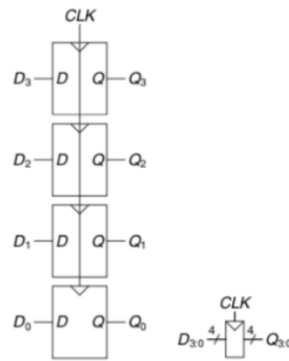

Figure 4: Register
4. **Register (figure 4):** An N-bit register is a bank of N flip-flops that share a common CLK input, so that all bits of the register are updated at the same time.